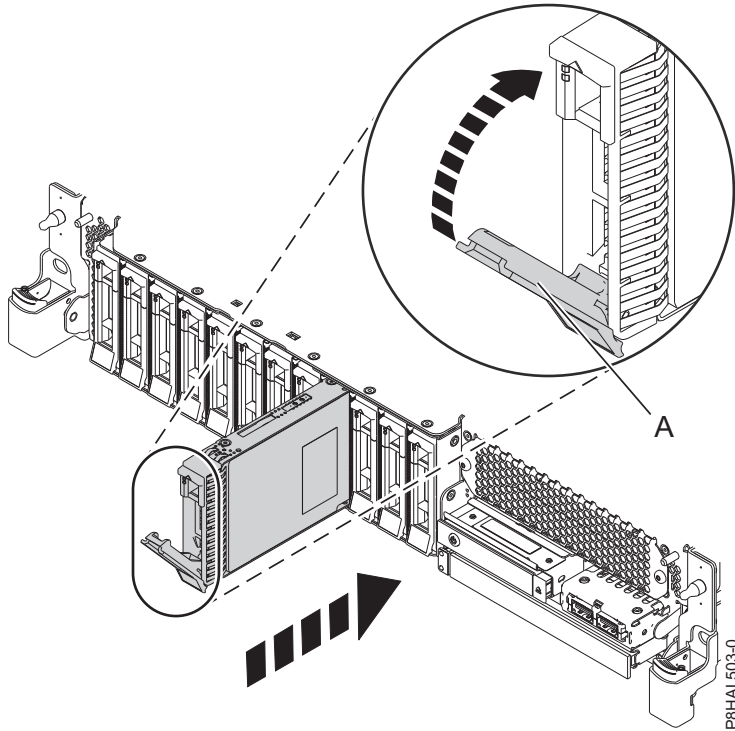
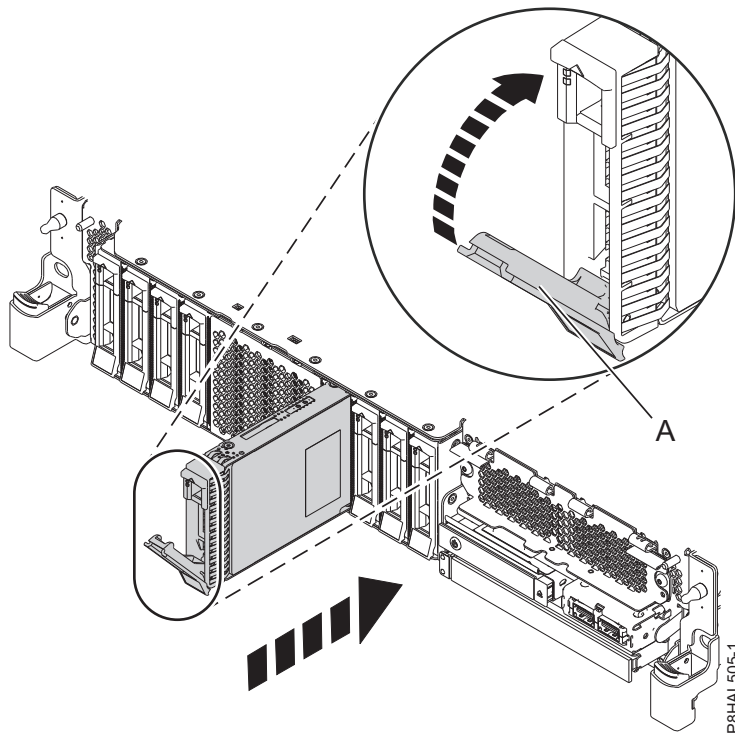

Figure 4. Installing a disk drive in a base function 5148-21L, 5148-22L, 8247-21L, 8247-22L, 8284-21A, or 8284-22A system
Figure 5. Installing a disk drive in an expanded function 5148-21L, 5148-22L, 8247-21L, 8247-22L, 8284-21A, or 8284-22A system
3. Unlock the drive bay handle (A) by pressing it and pulling it out toward you. If the handle is not all the way out, the drive does not slide into the system. See Figure 4 on page 6 and Figure 5 on page 6.
5. Slide the drive all the way into the system, and push the drive bay handle (A) in until it locks, as shown in Figure 4 on page 6 and Figure 5 on page 6.